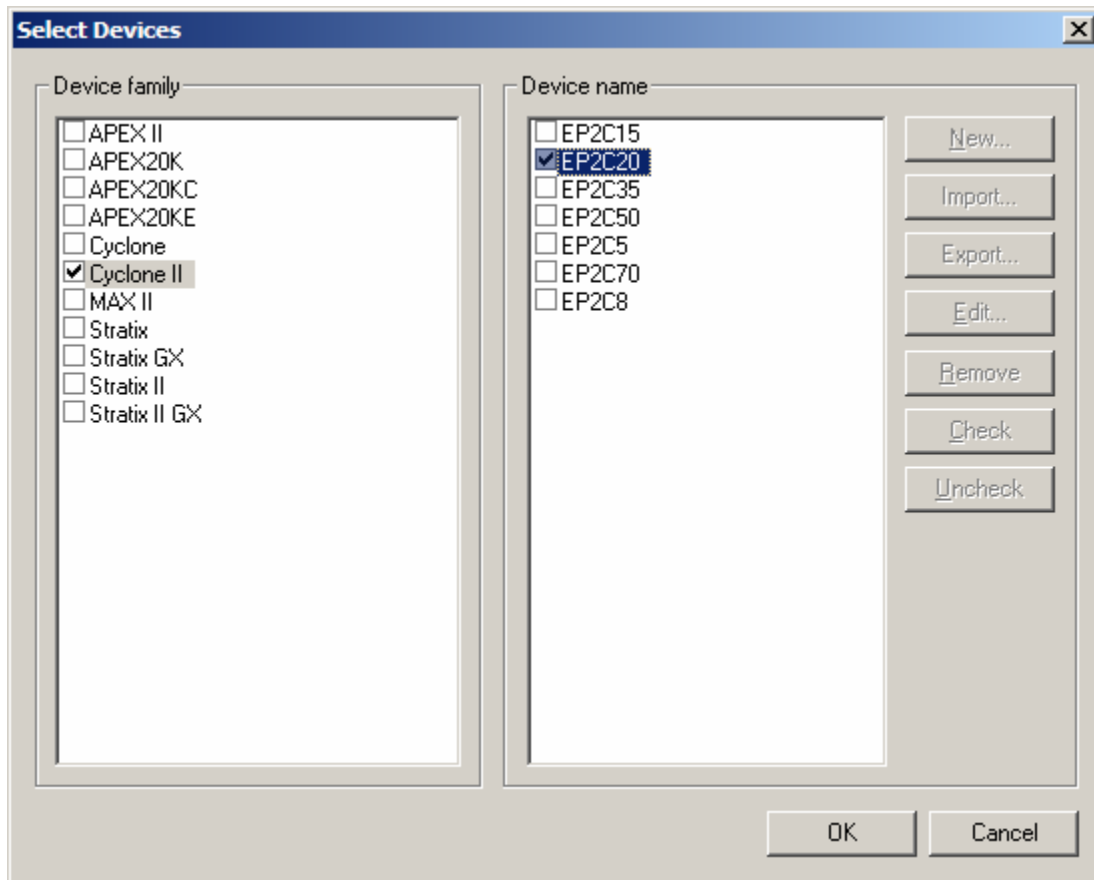

Figure 5. Quartus II Select Devices Window
- e. In the Select Devices window, select **Cyclone II** from the Device family area, and select **EP2C20** from the Device name area, as shown in **Figure 5** on page 34. The DBC2C20 development board includes an Altera EP2C20F484 Cyclone II FPGA. Click **OK**.